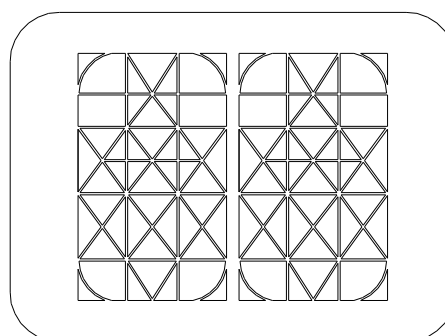
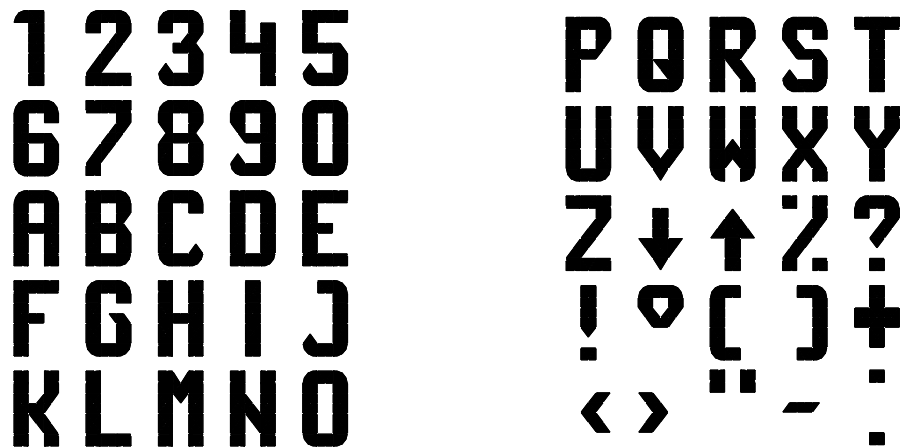

Figure 7 –639 Display Digits
Figure 8 – Configurable ASCII Characters
- 2 digits, according to Fig.7, which allows any ASCII character representation (Fig.8)
- Programmable if expressly ordered, it enables configuration of any other ASCII character (Fig.8). Non-standard configurations require special software, so it should be stated when ordering the product.